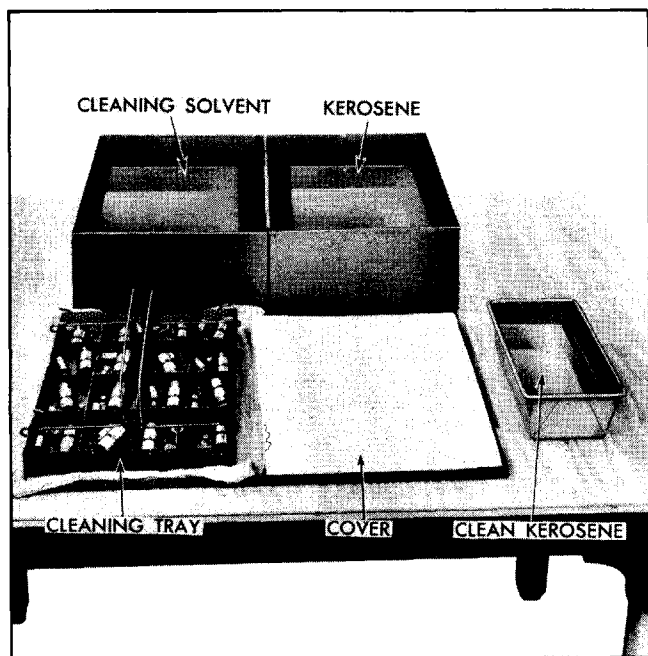

Fig. 6-49 Lifter Wash Tank and Tray J-5821
3. Drain oil out of lifter body and place all valve lifter parts in separate compartment of tray from Wash Tank J-5821 (Fig. 6-49). **CAUTION:** Valve lifter body and plunger are selectively fitted and must not be interchanged with parts of other lifters. (Keeping all parts of lifters together will also aid in trouble diagnosis. See "Note", step 20 of "Engine Disassembly", page 6-23.)
5. Wipe out tank cover and place tray of parts on cover in front of tank (Fig. 6-49). A shop towel under tray and clean paper on remainder of cover will enhance cleanliness.